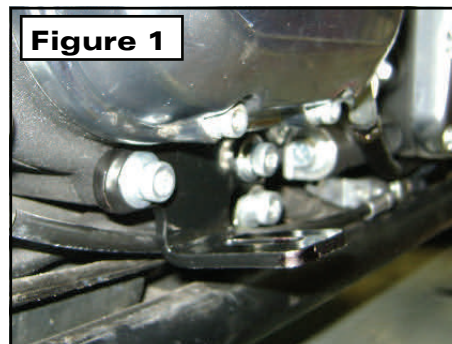

Figure 1
2. Remove the bottom two bolts from the transmission cover. Install the new mounting bracket using the 1 1/4" long socket head bolts and flat washers supplied. Leave bolts loose so that the bracket can slide back and forth freely. **(See Figure 1)**